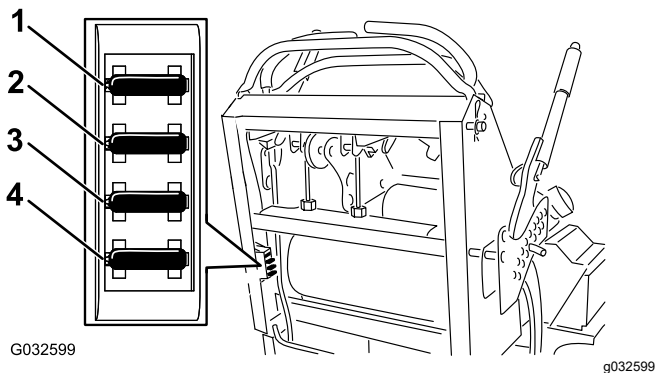

Figure 53
4. Pull out the fuse and replace it (Figure 53).